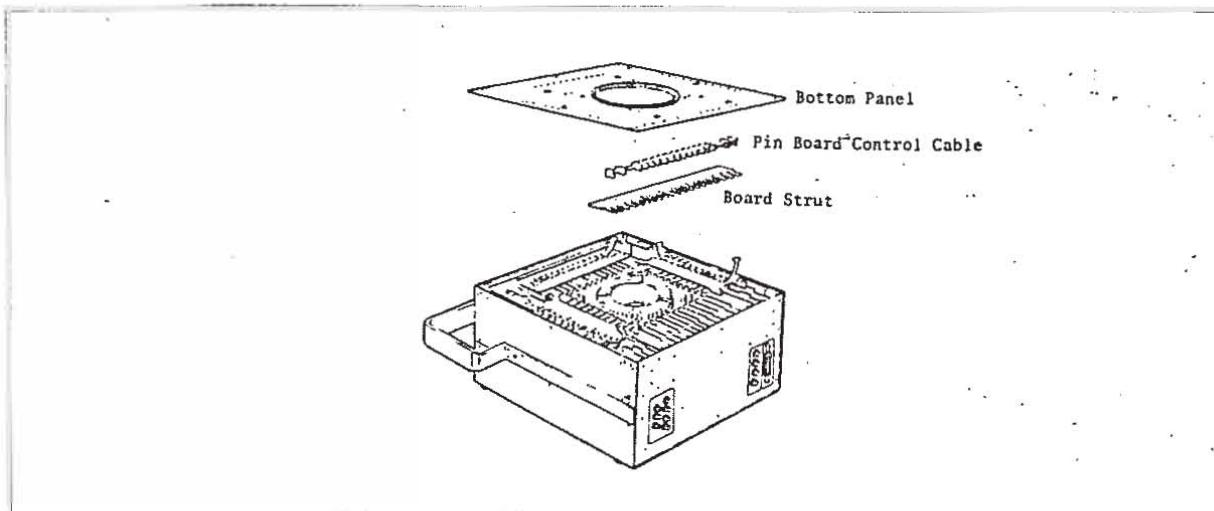

Figure 2-2. Pin Board Installation
4. Remove the board struts and pin board control cables. Refer to Figure 2-2.